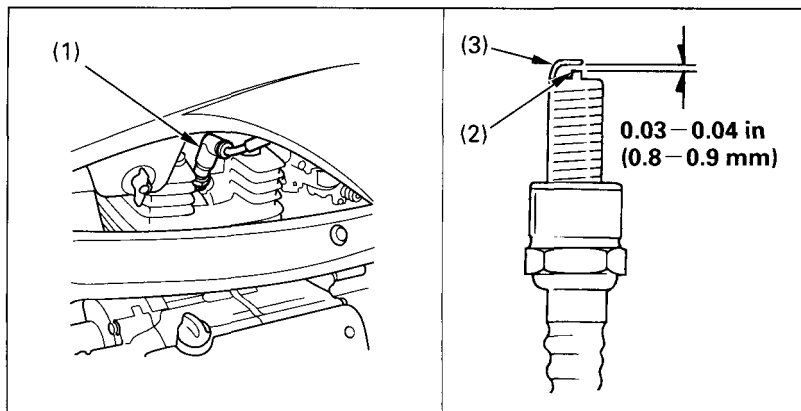

Fig. 4-16 (1) Spark plug cap
4. Visually inspect the spark plug electrodes for wear. The center electrode (Fig. 4-16) should have a flat tip and sharp edges, and the side electrode (3) should not be eroded. If the electrodes and insulator tip appear unusually fouled or burned, we suggest that you contact your authorized Honda dealer.